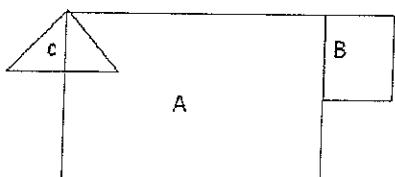

Fig. 1
4. a. Check the regularity for the following operations of Fig. 1.